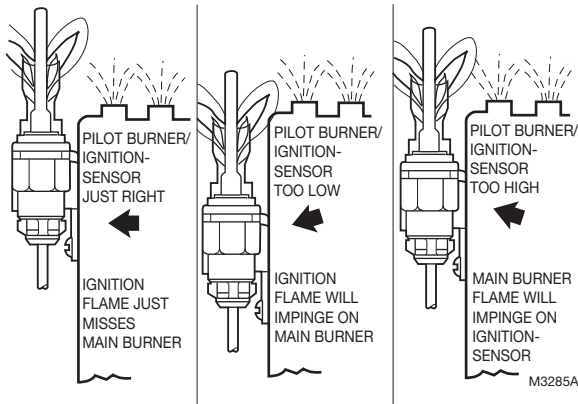

Fig. 2. Location of pilot burner.
3. Mount pilot burner so the ignition flame remains properly positioned with respect to the main burner flame. See Fig. 2.